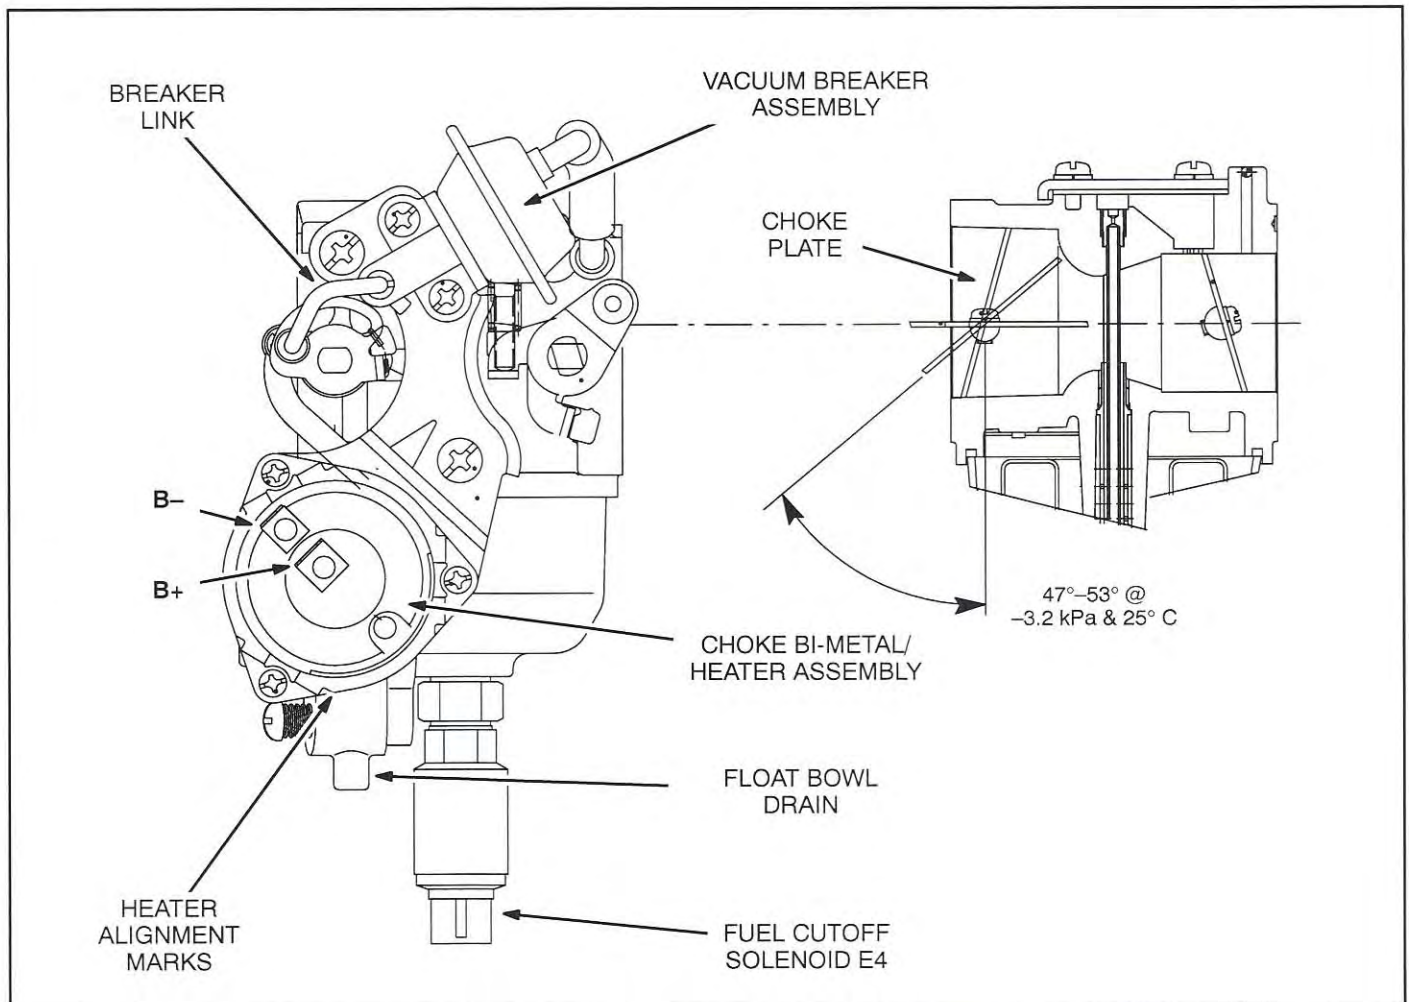

FIGURE 8-10. CARBURETOR / CHOKE ASSEMBLY
3. Disconnect the leads to the the choke heater and fuel cutoff valve (Figure 8-10).
The carburetor (Figure 8-10) is not likely to cause problems and should be replaced only after all other problems have been eliminated (see Section 11. *Troubleshooting*). The carburetor fuel mixture adjustments are sealed at the factory. See Page 8-20 to connect the throttle link and to adjust the idle (throttle) stop screw.
The automatic choke is operated by a bi-metal/heat-er assembly and a vacuum breaker assembly (Figure 8-10). Conduct the following checks and adjustments before replacing a carburetor/choke assembly:
3. The vacuum breaker diaphragm must not leak under a vacuum of 30 inches Hg (100 kPa). It should not take a vacuum greater than 2.4 inches Hg (8 kPa) to open the choke fully. At a vacuum of 1 inch Hg (3.2 kPa) the choke plate should be at the angle shown (Figure 8-10). If necessary, bend the link at the point shown, using two pliers.
The fuel cutoff solenoid is threaded into the bottom of the carburetor float bowl (Figure 8-10). If the engine does not start because it is not getting fuel, but fuel can be drained from the carburetor float bowl, the solenoid probably is not opening and should be replaced. To remove and replace the cutoff solenoid: